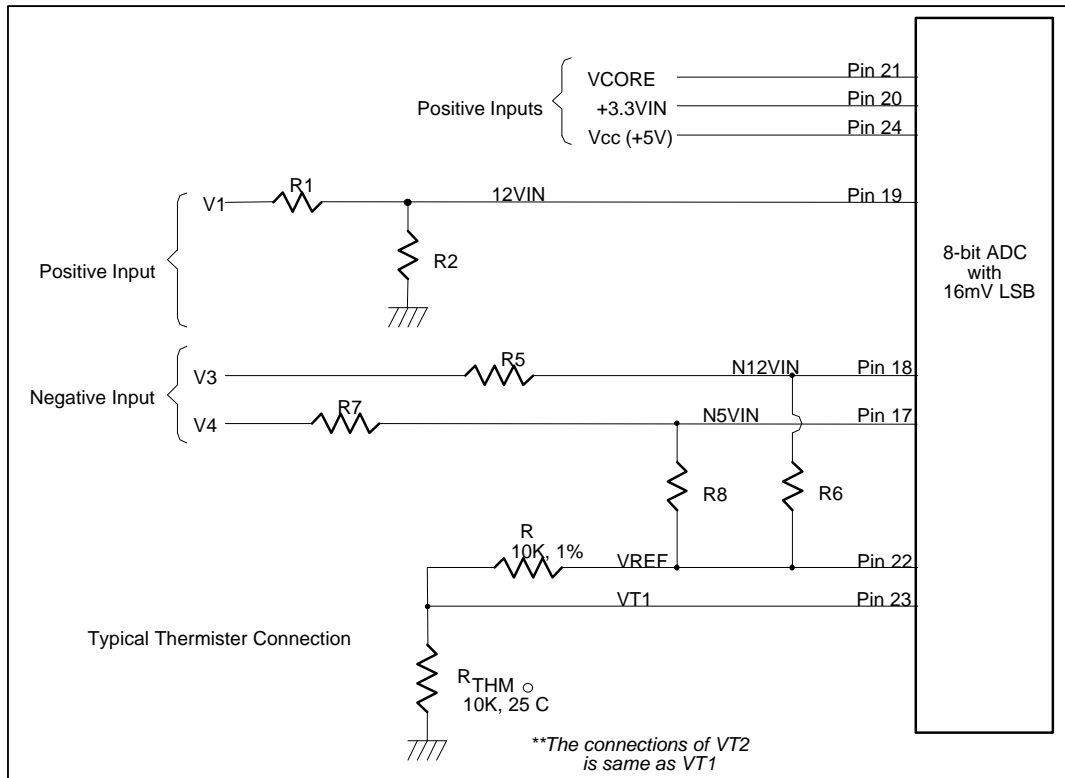

FIGURE 10
analog inputs. Voltages higher than 4.096V must be reduced to the specified input range. An example using external resistors is shown in Figure 10.
The negative voltage should be connected to two series resistors and a positive voltage VREF (equal to 3.6V). In Figure 10, voltages V3 and V4 are two negative voltages, -12V and -5V respectively. The voltage V3 is connected to two series resistors and then is connected to VREF
The MON35W82 can connect to three thermistors to measure three different environmental temperatures. The specification of the thermistors are (1) β value is 3435K, (2) resistor value is 10K ohms at 25°C. In Figure 10, the thermistor R_{THM} is connected to VT1 and VT1 is connected through a 10K ohm series resistor to VREF.